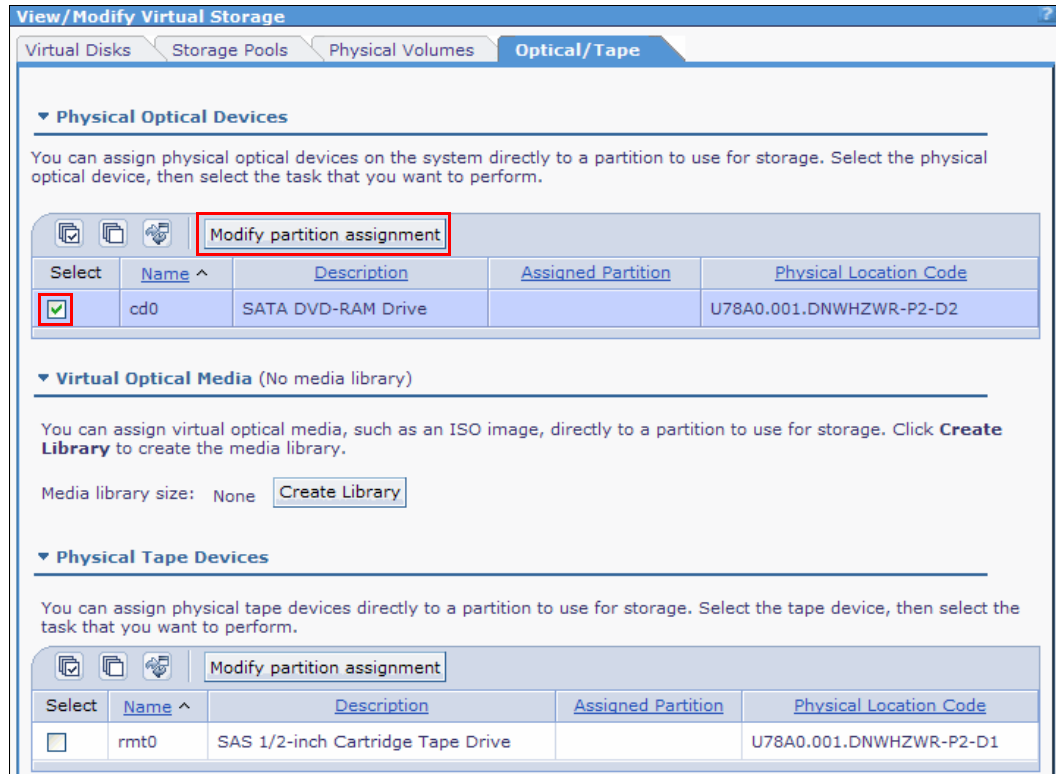

Figure 4-60 Optical Devices selection
2. Select the optical device that you want to modify, as shown in Figure 4-60.